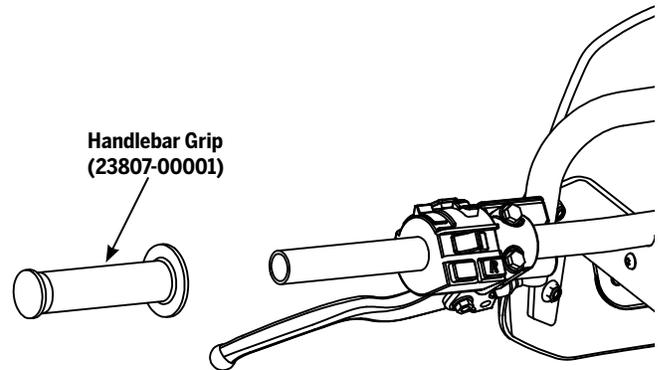

Figure 115: Handlebar Grip
2. Slide the end of the Handlebar Grip onto the left handlebar. See **Figure 115**.